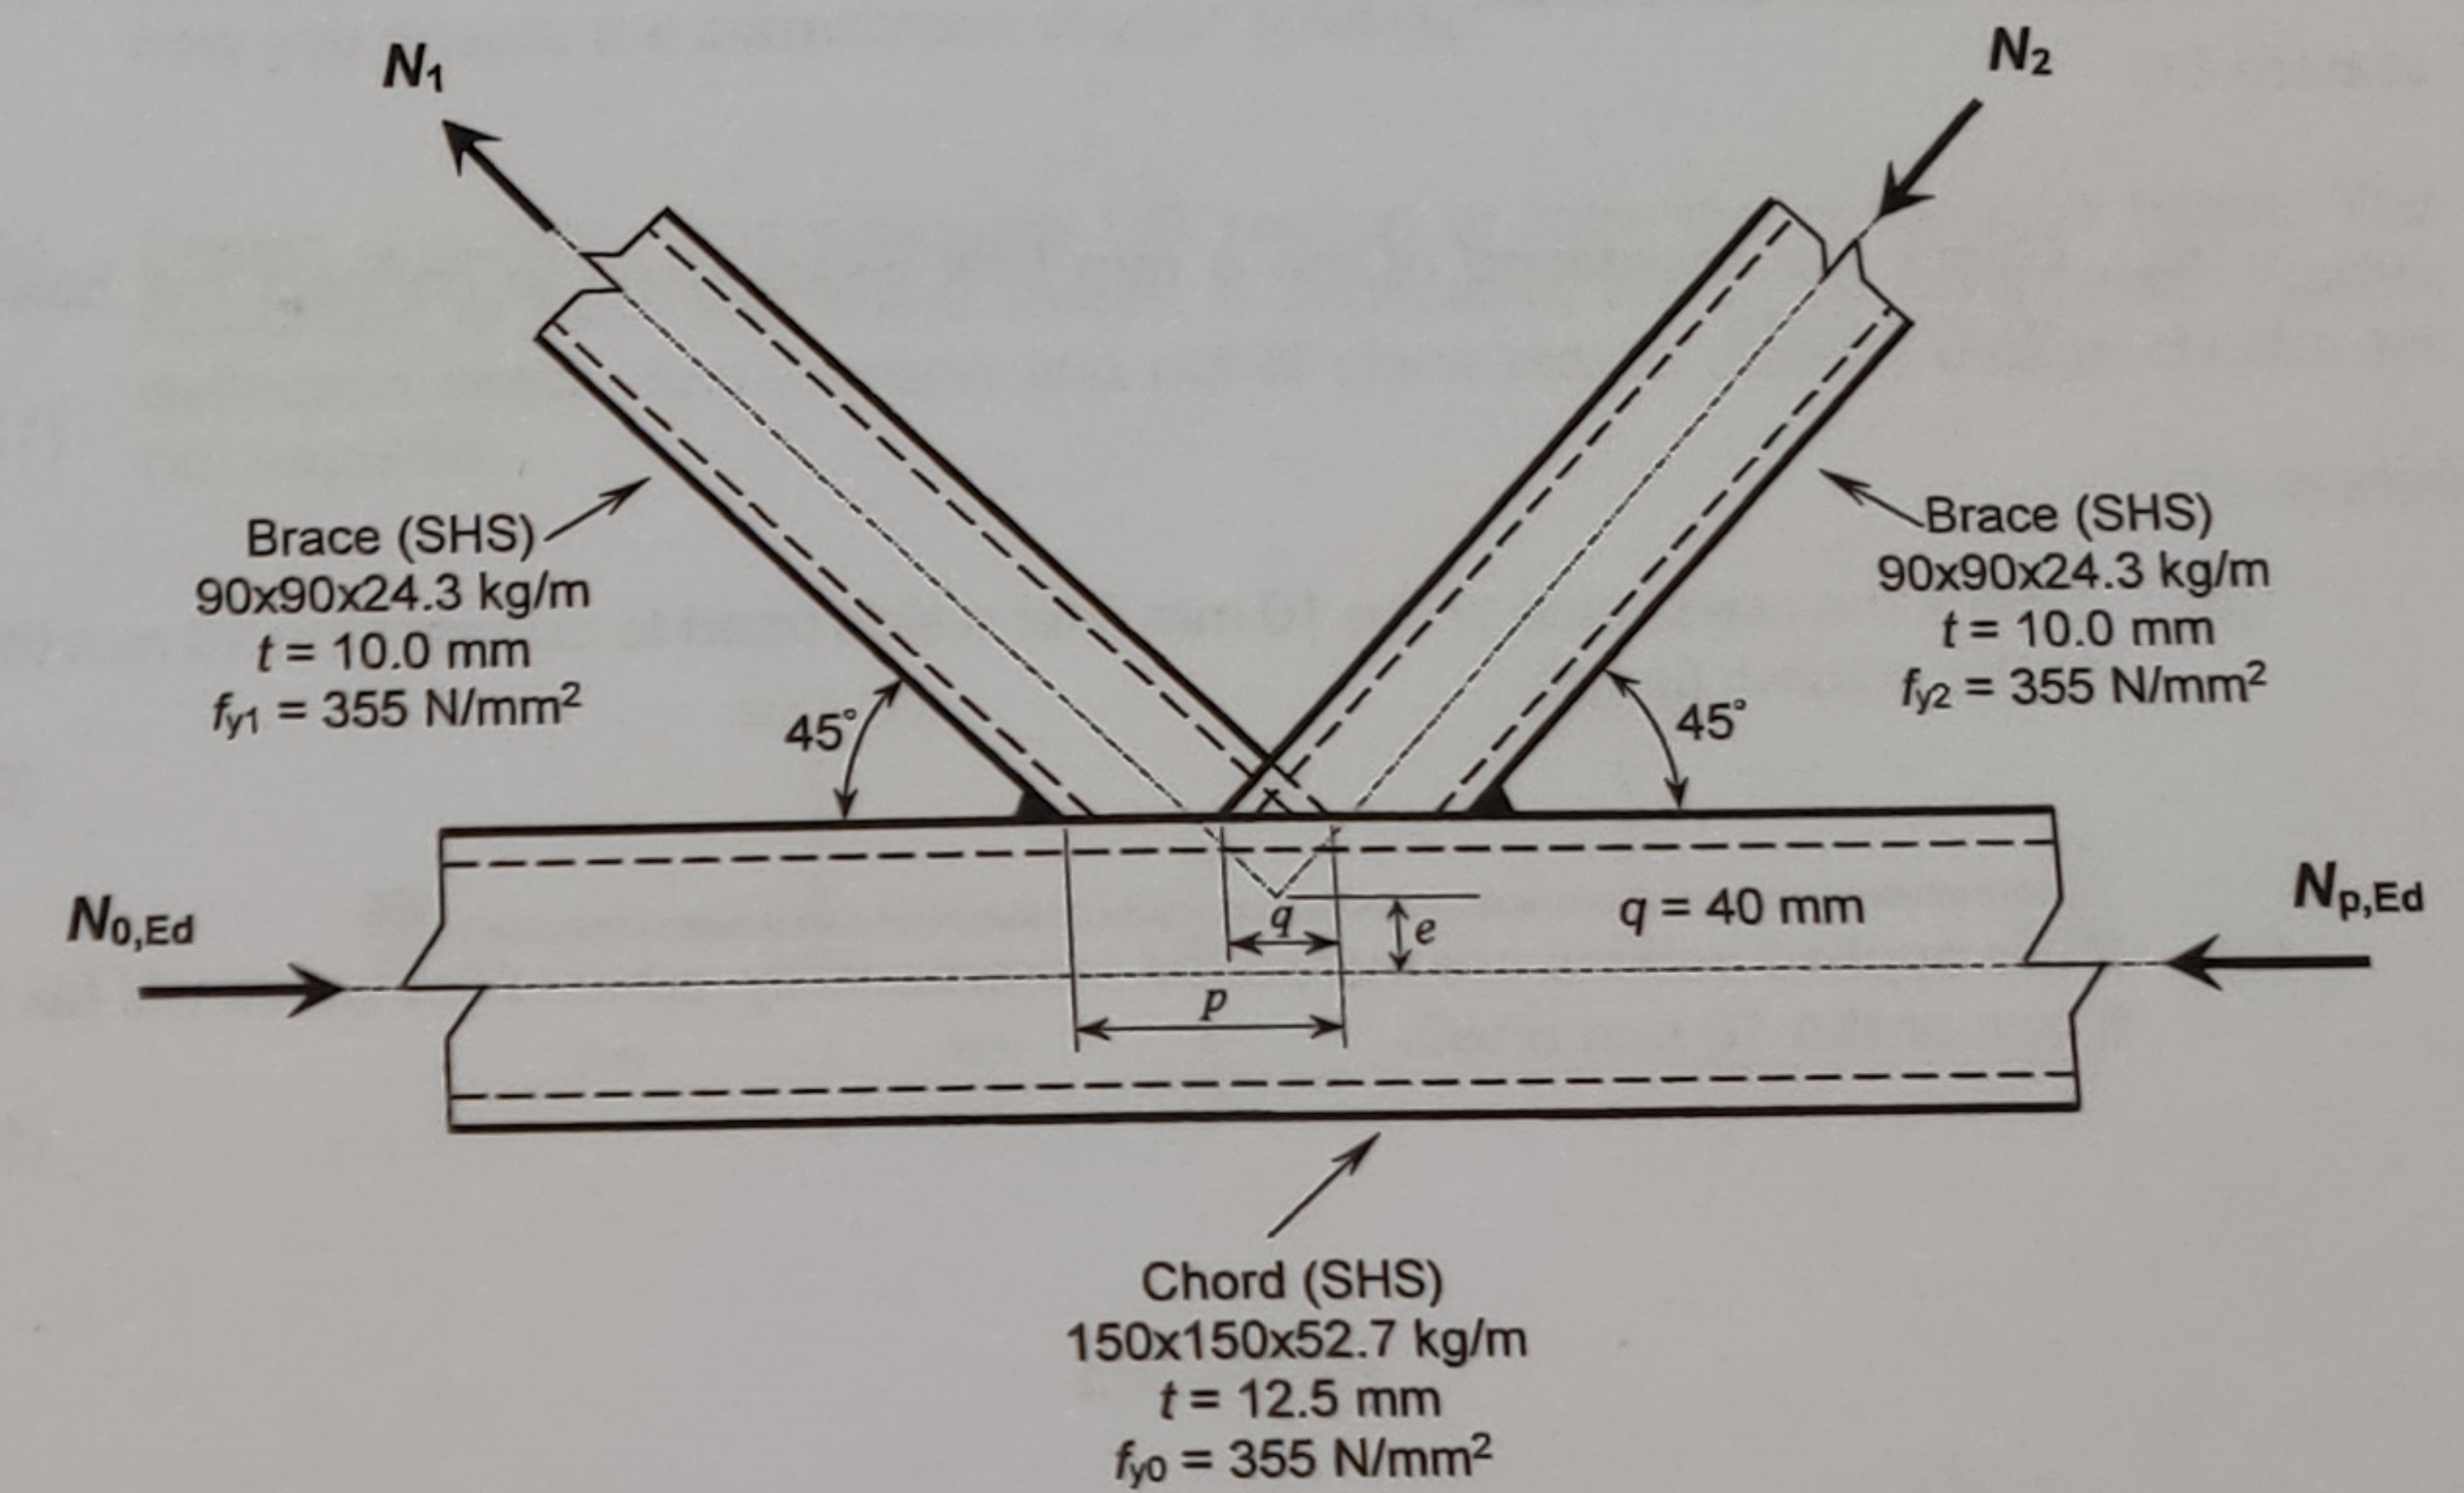

Figure Q1
1. A partially overlapped K-joint is shown in Figure Q1. The overlapped brace is welded completely to the chord; while the overlapping brace is partially welded to the brace and the chord. All members are made of square hollow sections (SHS) in accordance to EN 10210, and the steel Grade is S355 as given in Table 3.1 of EN 1993-1-1: 2014. Use design recommendations given in Eurocode 3, EN 1993-1-8: 2010,